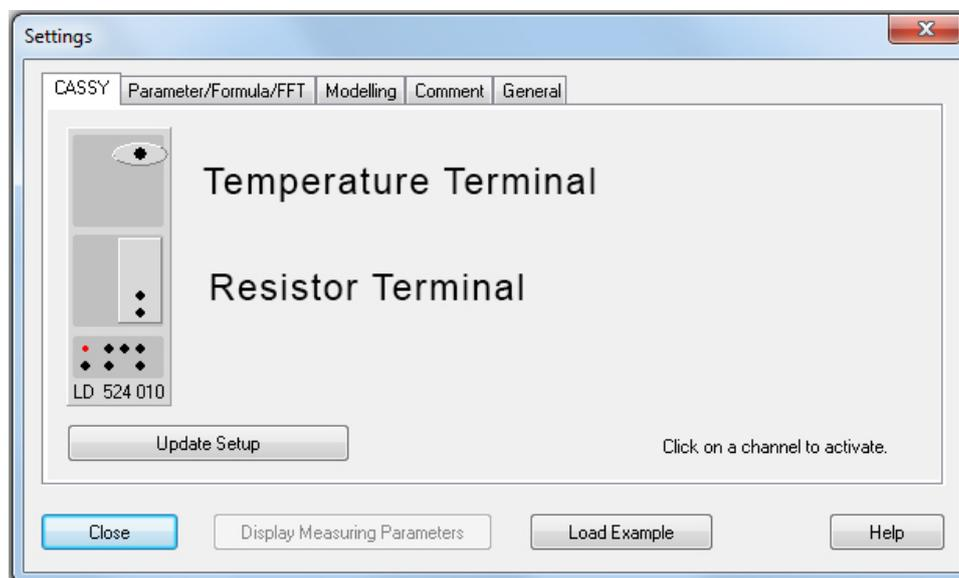

Figure 2: CASSY map of terminals
5. Click on the first terminal on the map as shown on Figure 2. It will detect automatically what is connected to the terminal so that it will show temperature as it is connected to a thermocouple. Set the range to -200°C to 50°C . Select the option of 'average values'.